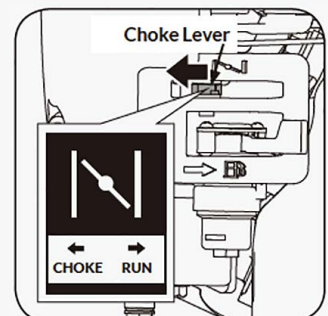

Figure 11
2. Move the choke lever to the **CHOKE** position. (See **Figure 11**)